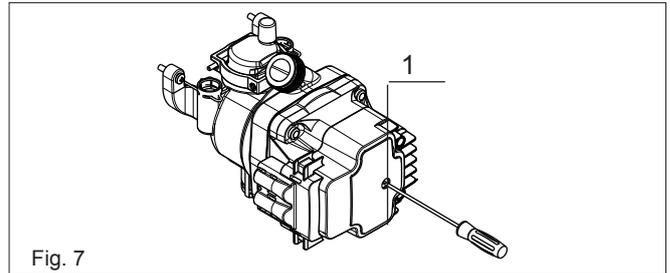

Fig. 7
- with a slotted screwdriver, rotate the shaft being careful not to strain the seat (Fig. 7).